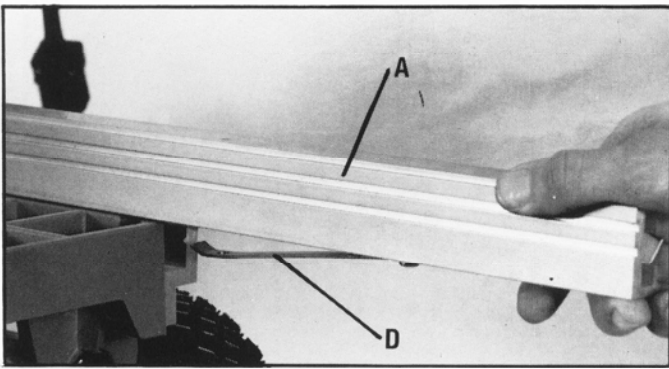
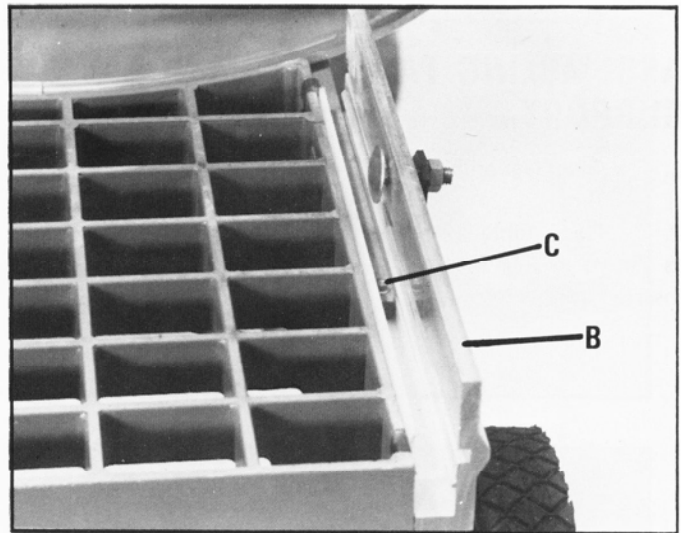

Fig. 11
Fig. 11A
1. Squeeze upwards on spring (D) Fig. 11, and slide right fence half (A) onto fence support (B) Fig. 11A, until pin (C) Fig. 11A, engages hole in spring (D) Fig. 11.